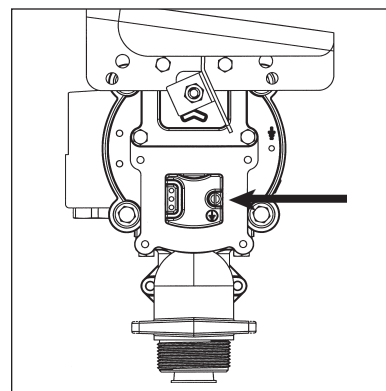

Figure 3
2. Attach ground wire using the green ground screw located inside the electrical box (Figure 3). The external bonding connection is only a supplemental bonding connection where local authorities permit or require such a connection. Connect the power cable to the black and white pump wires and the control circuit (if required) to the brown wire. Secure with wire nuts.